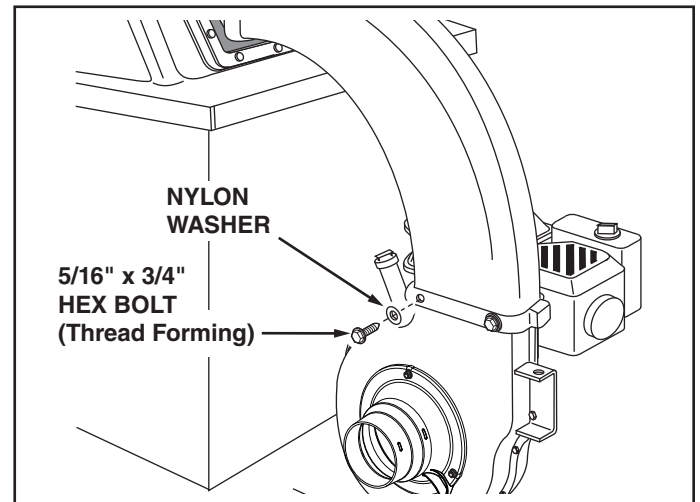

FIGURE 6
9. Assemble the elbow to the impeller housing using four 5/16" x 3/4" self tapping hex bolts and four nylon washers. Push while turning to help start the bolts into the unthreaded holes. **Tighten.** See figure 6.